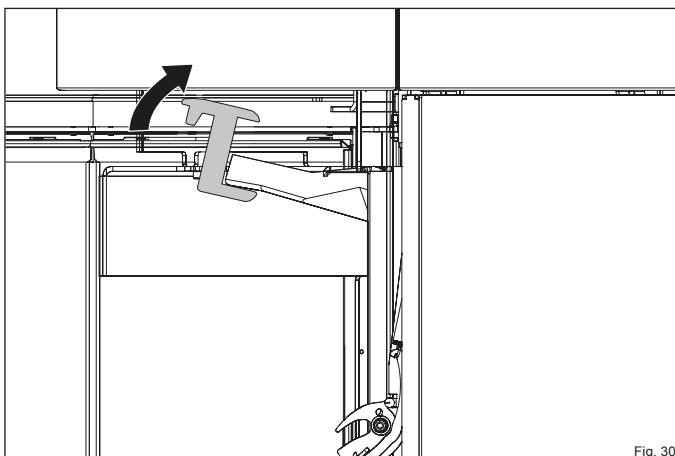

Fig. 30
- ▶ Turn the firebrick retainer to the front until the top fire brick comes out of the retainer (Figure 30).